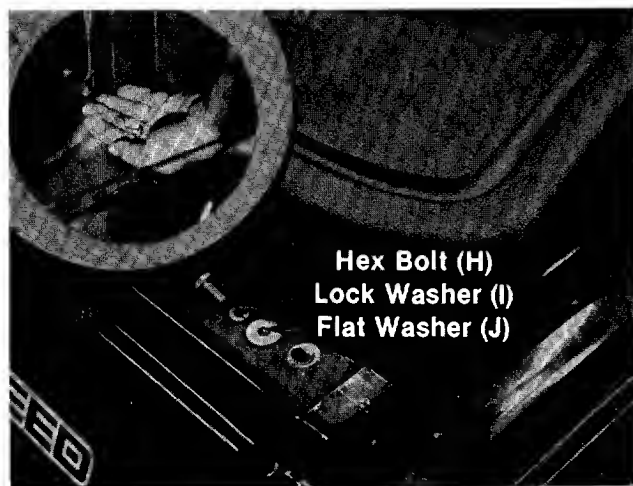

FIGURE 6.
- ← Line up the four holes in bottom of seat with four corresponding holes in cover. Then insert the four hex bolts up through holes, tightening with an adjustable wrench. See figure 6.